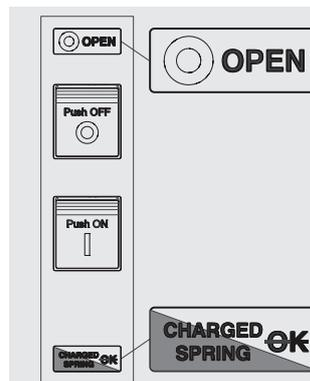

Figure 81
5. Circuit-breaker open with springs charged and not ready to close (see Figure 81). This state occurs in the following cases: